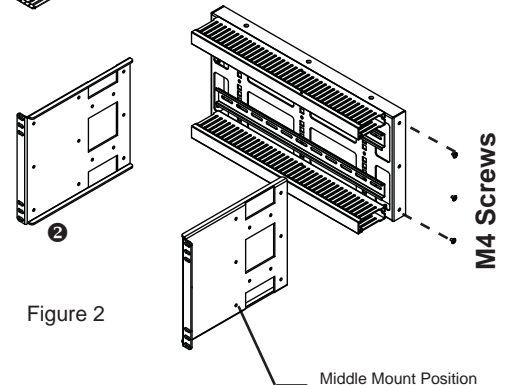

Figure 2
Step 4. Secure both side ear bracket ❷ with (3)M4x8 screw for each side to complete installation. (Figure 2)